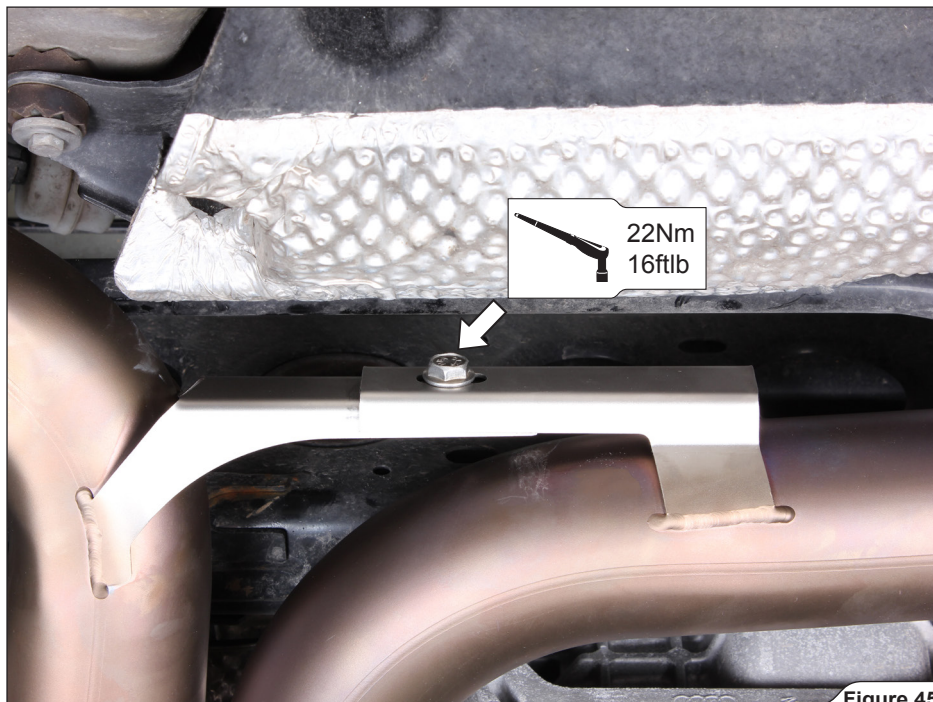

Figure 45
12. Tighten the mufflers' connection (using bolt and nut from Akrapovič installation kit) and mufflers - collector joints' clamps to the specified torque (**Figure 45, 46**).